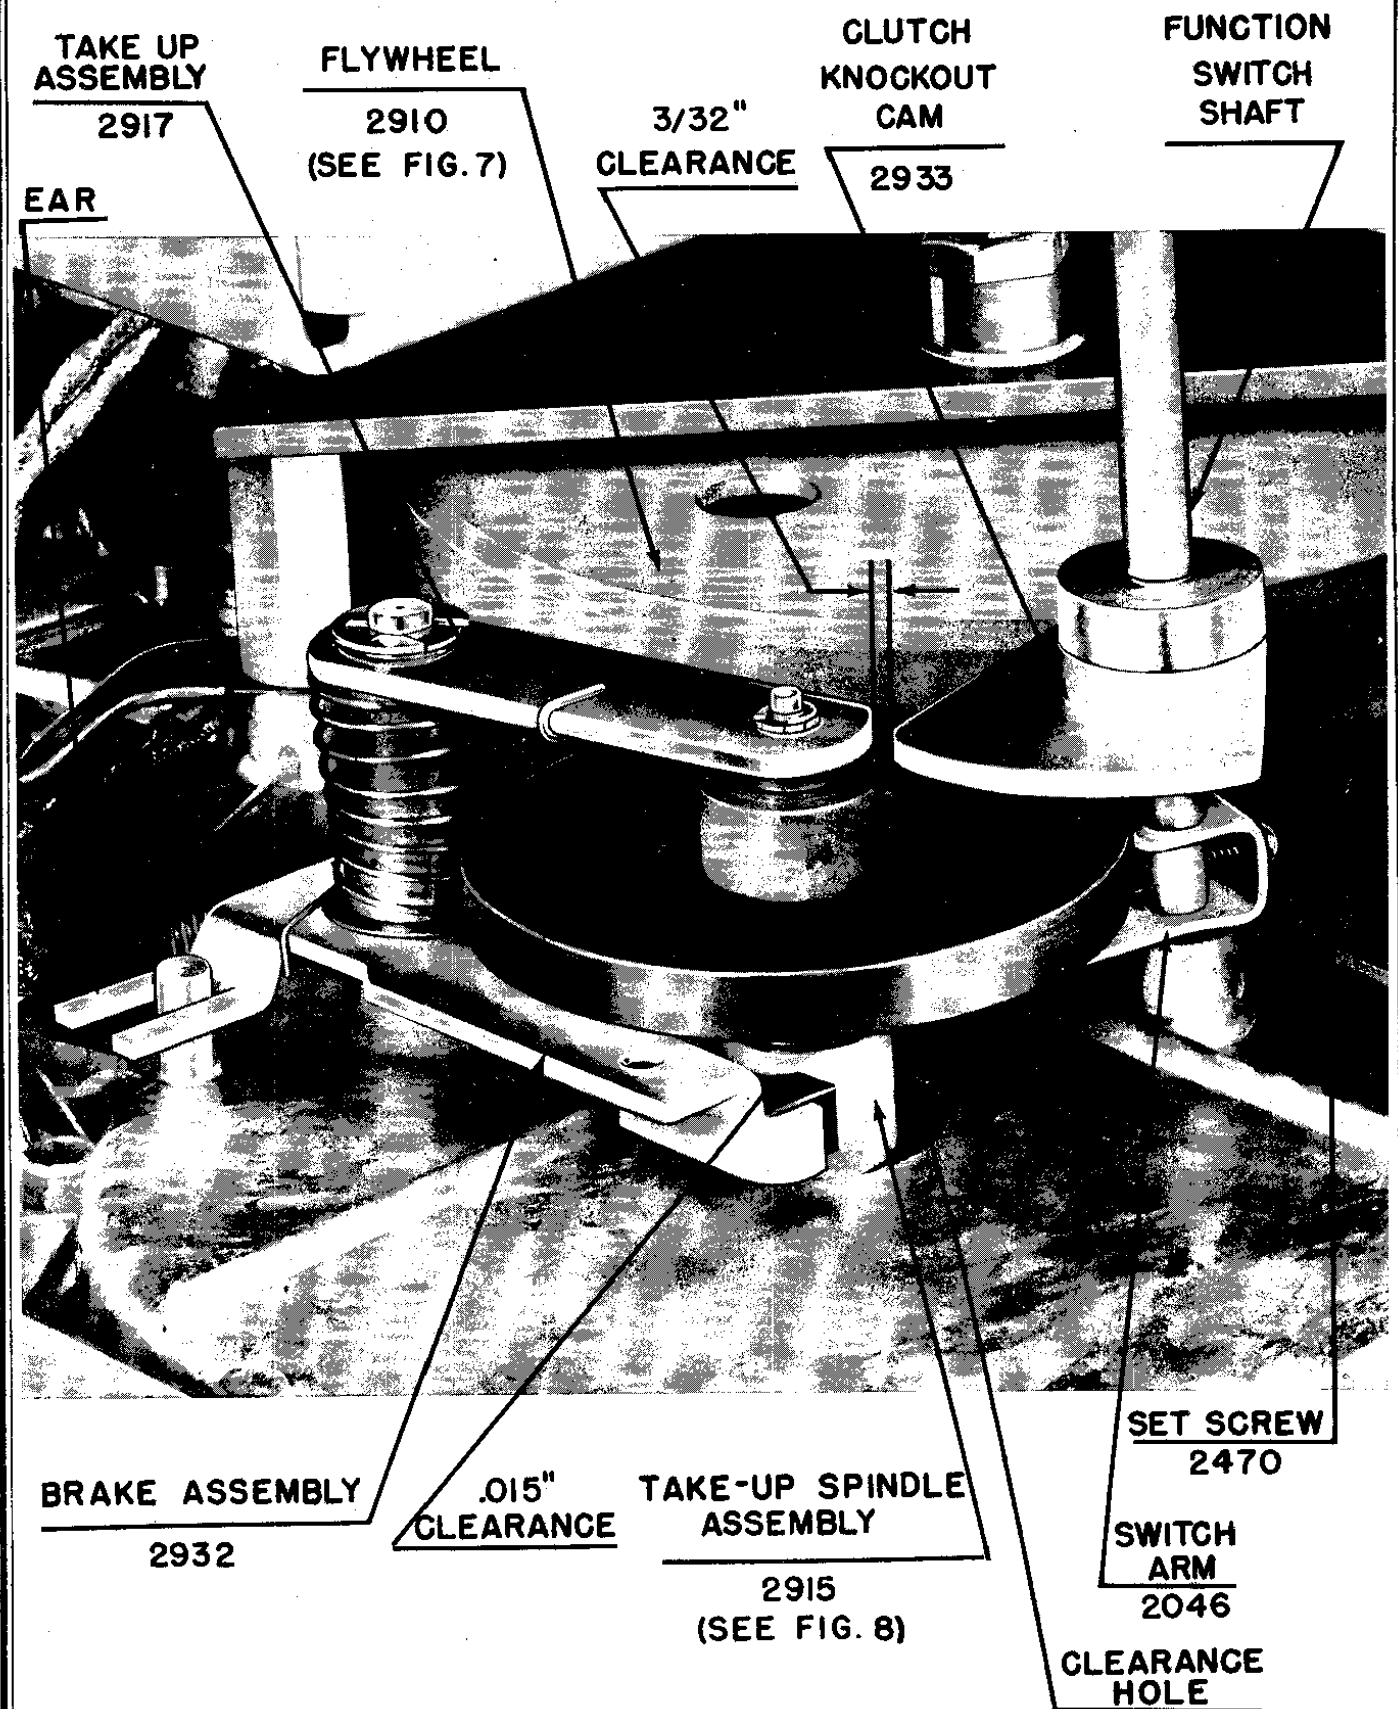
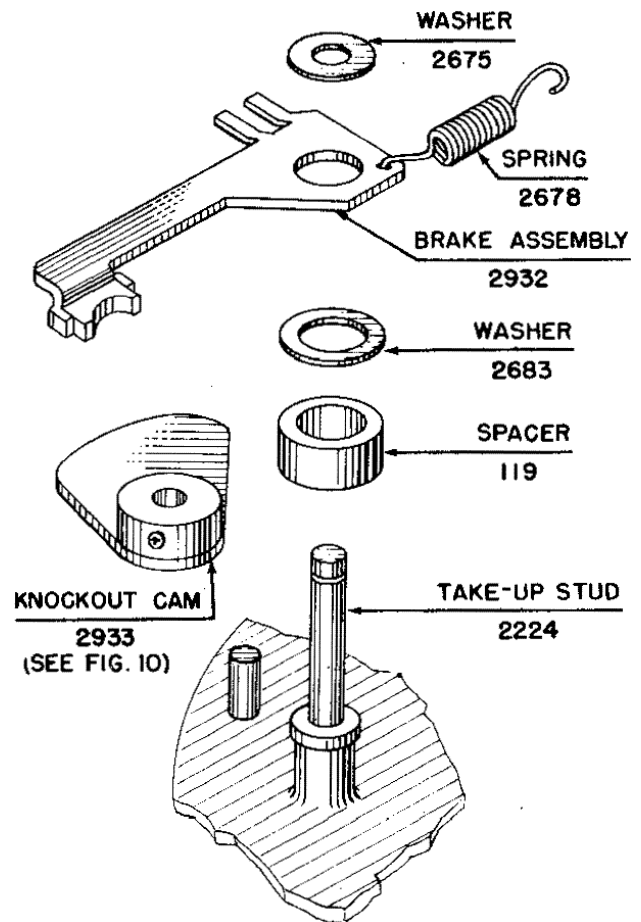

FIG. 10 - Knockout Cam and Brake Adjustments.
FIG. 12 - Clutch Brake Assembly.
(2) Assembly (see Fig. 3): Place mechanism face down in wooden rack. Position amplifier above mechanism. Insert Function switch shaft through switch arm (#2046) and into boss in body casting (see Fig. 10). Turn Function switch to REWIND position; tighten switch-arm set screw against flat on switch shaft. Return Function switch to STOP position. Replace truss head screws (#2445) through amplifier mounting bracket. Replace head and motor plugs.
Fig. 10 illustrates further adjustments and checks which must be made. The following step-wise procedure is necessary.
An improved clutch-brake assembly can be installed on all machines below Serial No. 18600. Referring to Figure 12, procure and assemble parts as shown, enlarging clearance hole for takeup spindle assembly (see Fig. 10) to 1 inch diameter.